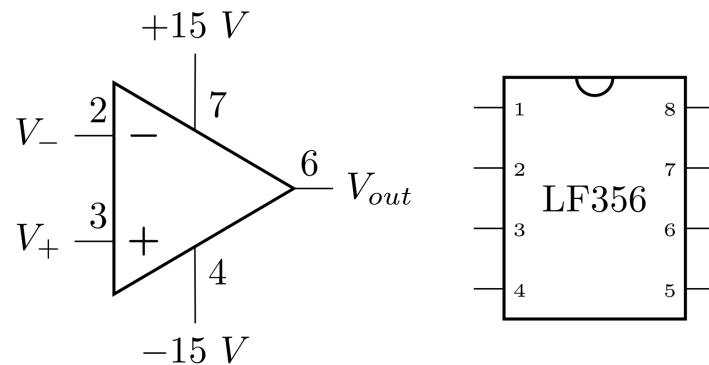

Figure 4: LF356 schematic and pin-out
1. This experiment will use both +15 V and -15 V to power the LF356 op-amp. Make sure you **unplug** the DC supplies while wiring your op-amp (you may find it useful to plug them into their own power strip). Everyone makes mistakes in wiring-up circuits. You should always check your circuit over before applying power. Figure 4 shows a pin-out for the LF356 chip. Familiarize yourself with the layout. The following procedure will help you wire up a circuit accurately: